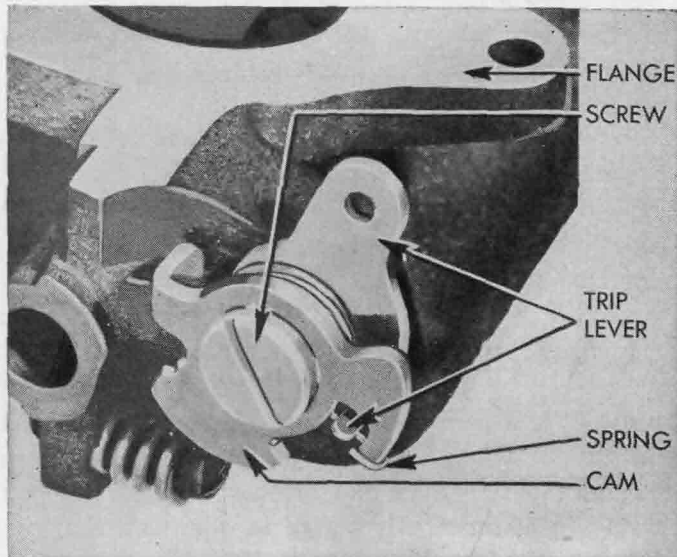

FIG. 10-21. Relationship of fast-idle cam, spring, and trip lever. (Buick Motor Division of General Motors Corporation)
1. To assemble body flange, drive in new idle-port rivet plugs, and put fast-idle cam and cam trip lever over fast-idle screw so that tongue on trip lever is held in the notch in cam by hooked end of cam spring (Fig. 10-21). Install parts on body flange. Slide throttle shaft into body flange with lever at the closed-throttle position. Put shaft retaining ring over end of shaft with prong points out, and push ring in against body flange to eliminate shaft end play. Install throttle valves on shaft with small "c" in circle toward idle ports. Back off throttle lever adjustment screw, fully close and center throttle valves, and tighten screws. Double-check centering of valves by holding body flange up to light. Then stake screwheads and screw shanks lightly. Install springs and idle adjustment screws in body flange. Assemble vacuum switch into body flange.